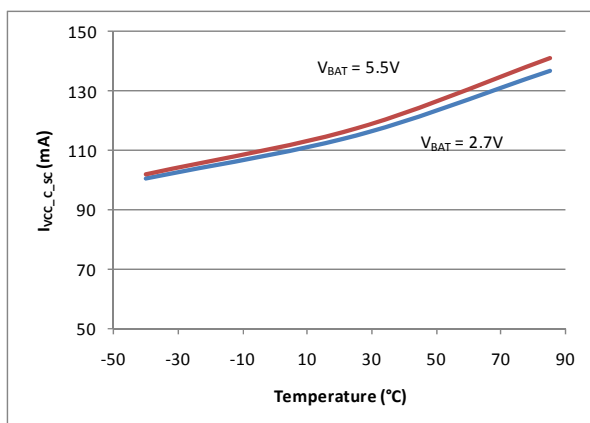
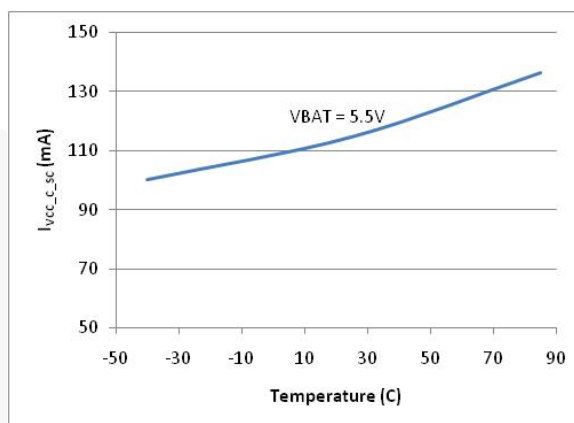
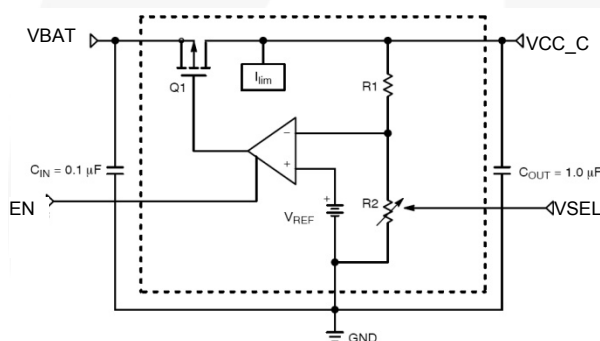

Figure 4. Short-Circuit Current, ($I_{VCC_C_SC}$) vs. Temperature $V_{CC_C}=1.8V$ ($V_{SEL}=LOW$)
Figure 5. Short-Circuit Current, ($I_{VCC_C_SC}$) vs. Temperature $V_{CC_C}=3.0V$ ($V_{SEL}=HIGH$)
Figure 8. Simplified Block Diagram of the LDO Voltage Regulator
FXLP4555 has a shutdown input (EN) that allows it to turn off or turn on the regulator output. Figure 8 shows a simplified view of the voltage regulator. The VCC_C output is internally current limited and protected against short circuits. The short-circuit current ($I_{VCC_C_SC}$) is constant over the SIM Card VCC and VBAT, while it varies with operating temperature, typically in the range of 90mA to 140mA (Figure 4 and Figure 5).